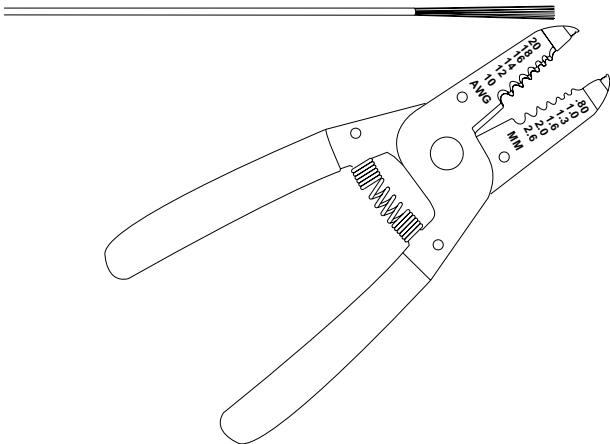

Figure 3
**4.2** Using the buffer stripping tool, remove the marked length of jacket (Figure 3). For consistent results, hold the stripping tool perpendicular to the cable, and make sure that the cable is in the correct notch of the tool (for more details on the use of this tool, see SRP-005-005, *Corning Cable Systems Stripping Tool for Buffers*).